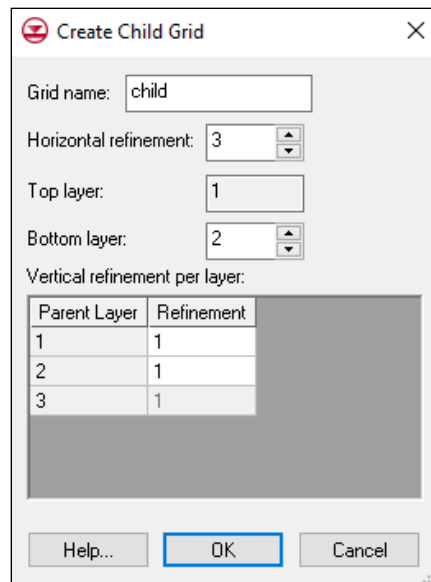

Figure 4 Create Child Grid dialog
7. Right-click in the selected area and select **Create Child Grid...** to bring up the *Create Child Grid* dialog (Figure 4).